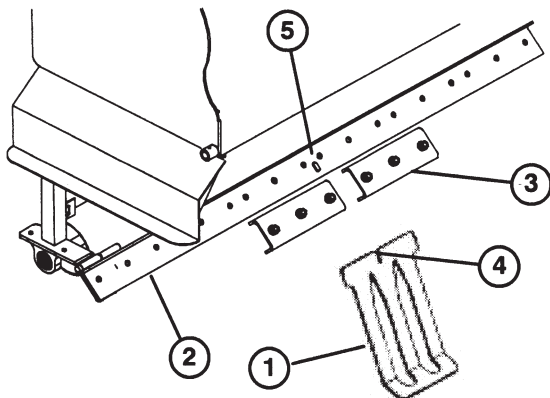

Figure 13
1. Loosen the nuts securing the turf guard clamps to the turf finger tool bar (Fig. 13).
the locator key of the turf finger bracket (Fig. 13). Refer to the accessory chart note, page 3